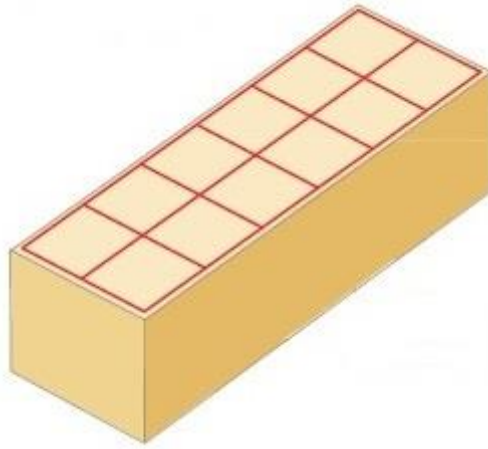

Figure 3
3. Meshed conductors (Figure 3)